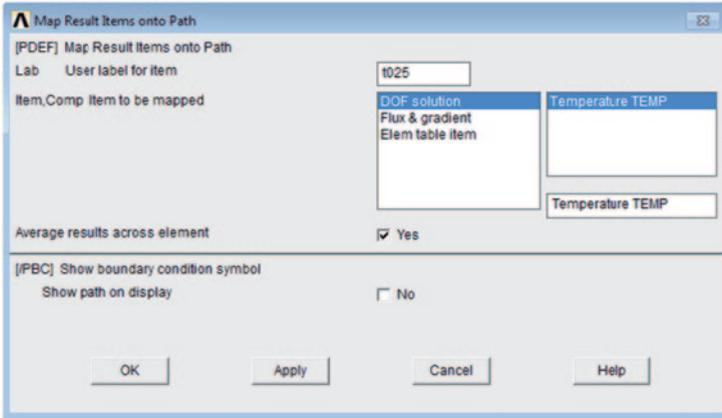

Fig. 5.30 Map result items onto path dialog box used for line plot of temperature along the path Y025
- *Map Result Items onto Path* dialog box appears, as shown in Fig. 5.30; enter a unique name for the result item (e.g., **t025**, note that this is different than the